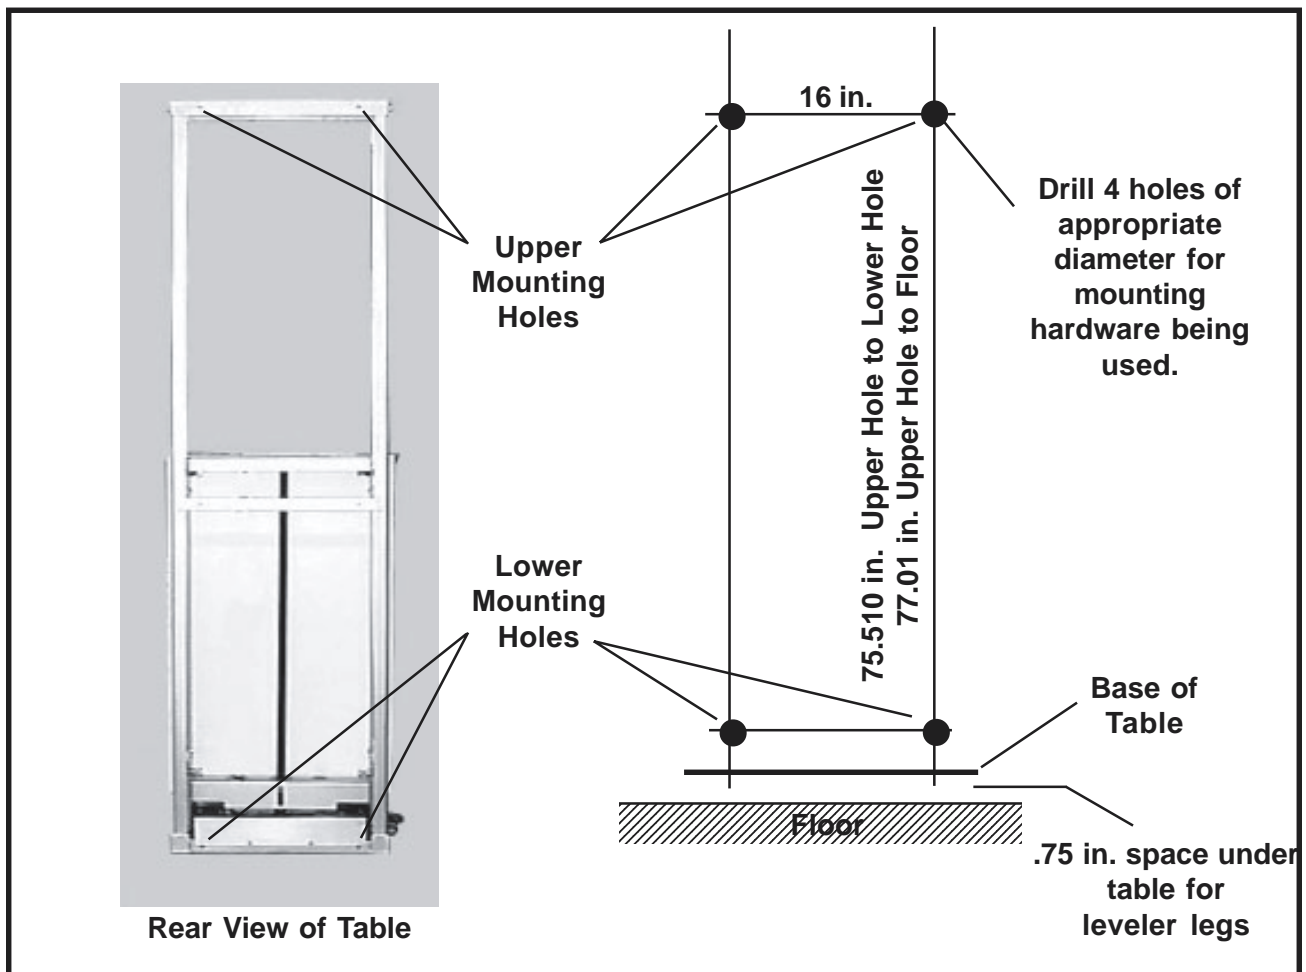

Figure 10. Wall-Mount Table - Mounting Holes & Dimensions
3. Refer to Figure 10 and drill the four mounting holes suitable for the type of fastener you will be using.